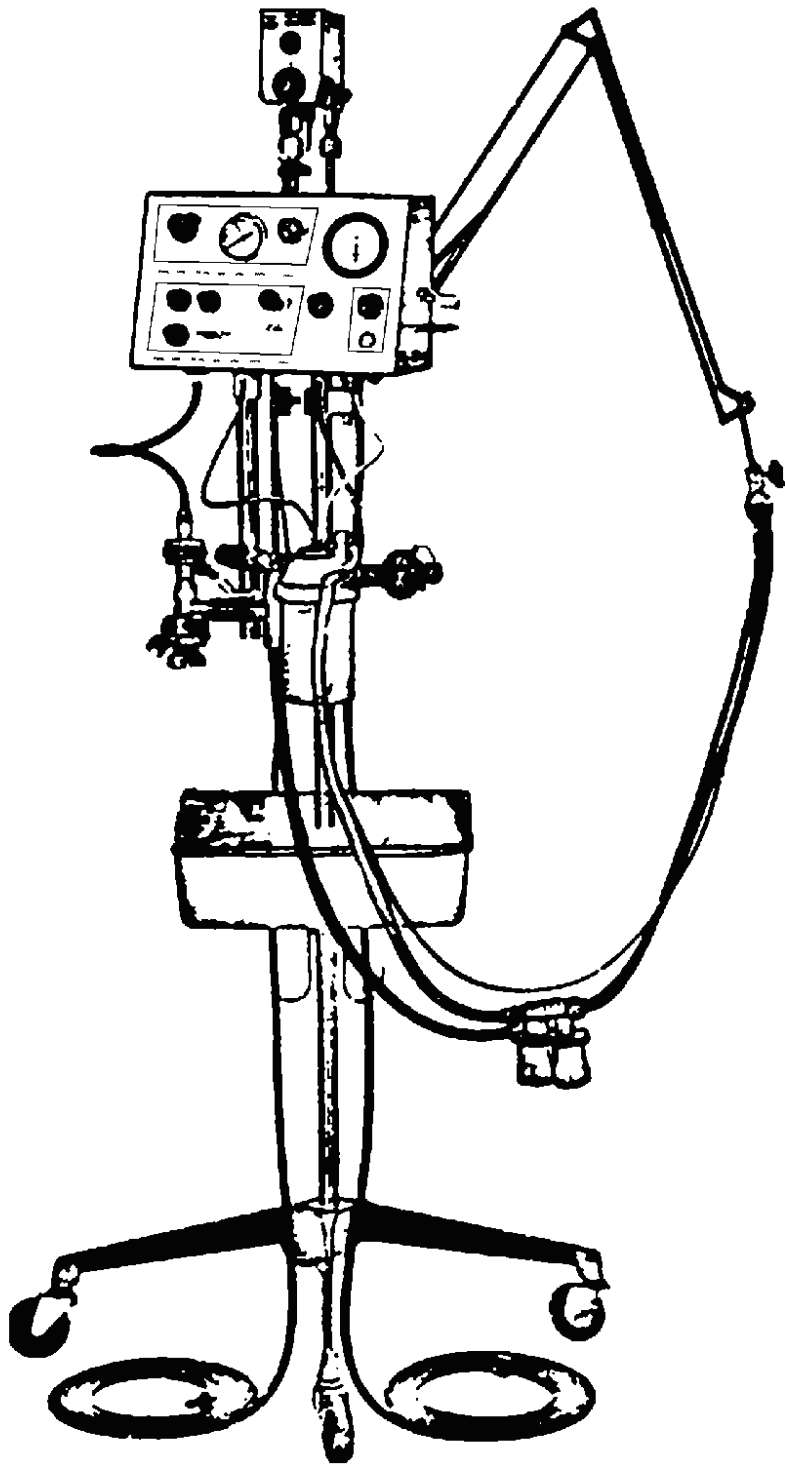

Figure 1-1. Babybird 5900 pediatric ventilator.
a. **Capabilities.** The Babybird ventilator (figure 1-1) has established design and performance standards for neonatal and pediatric ventilators. It functions as a pneumatically powered, time cycled, pressure limited, constant flow controller. It operates on source-gas pressure of 45 to 55 pounds per square inch (psi). The Babybird ventilator has two clinical capabilities.
- (1) Continuous positive airway pressure (CPAP) or spontaneous breathing.
- (2) Controlled intermittent mandatory ventilation (IMV).